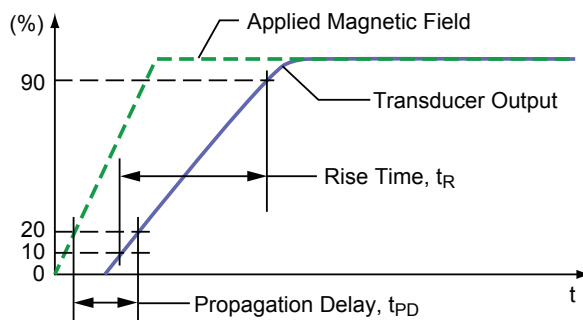

Figure 2: Propagation Delay and Rise Time definitions
**Propagation Delay ( $t_{PD}$ )** The time interval between a) when the applied magnetic field reaches 20% of its final value, and b) when the output reaches 20% of its final value (see figure 2).
**Rise Time ( $t_R$ )** The time interval between a) when the sensor IC reaches 10% of its final value, and b) when it reaches 90% of its final value (see Figure 2).